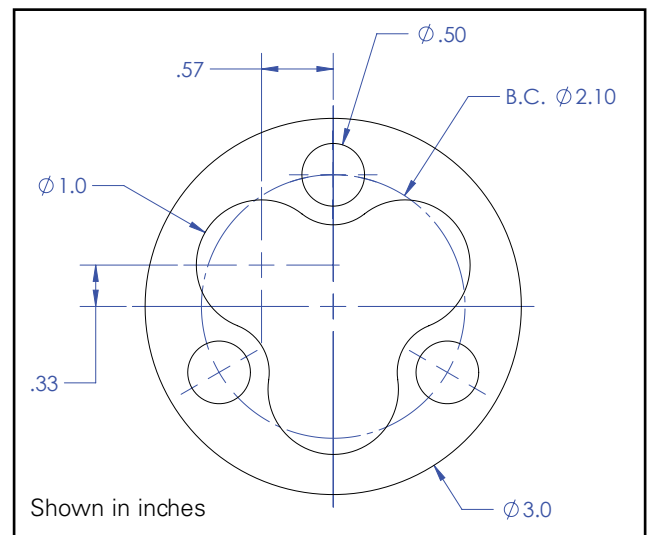

Figure 10.
1. Template is not to scale and to be used as a reference only (Figure 10).